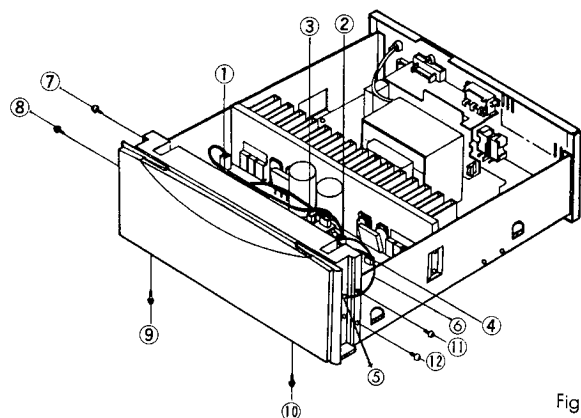

Fig. 6
1. Remove connectors ① to ④ in Fig. 6
2. Remove screws ⑤, and then untie the ground wire ⑥ in Fig. 6
3. Remove screws ⑦ to ⑬, and then remove the front panel assembly by pulling it toward you gently.
1. Remove the front panel assembly from the unit in Fig. 6 (Refer to step 6)
2. Remove screws ①, and then remove the pcb-3 ② in Fig. 6
3. Remove screws ③ to ⑥, and then remove the pcb-4 ⑦ in Fig. 6